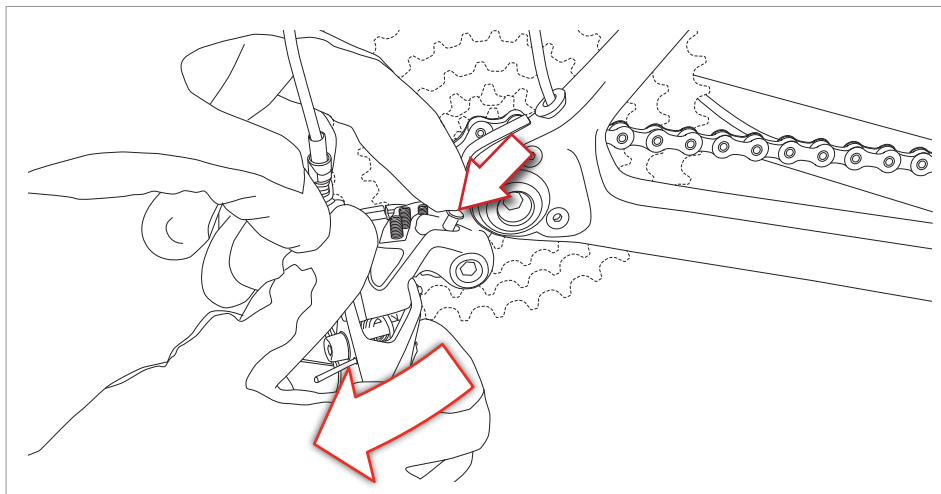

Fig.3
- After following the rear wheel assembly procedure, rotate the rear derailleur clockwise slightly and simultaneously press the release button, accompanying the rear derailleur back into the operating position (Fig. 3).